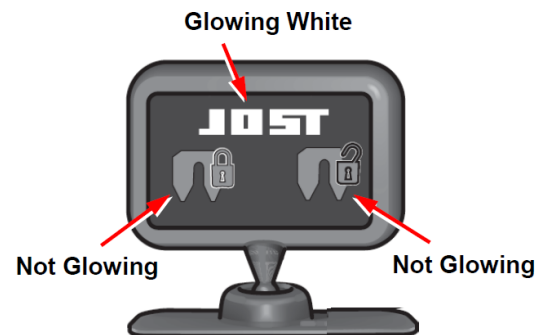

FIGURE 19
- The dash display JOST logo glows white (see figure 19).
The JOST Icon should glow white and silence the alarm (see figure 19).